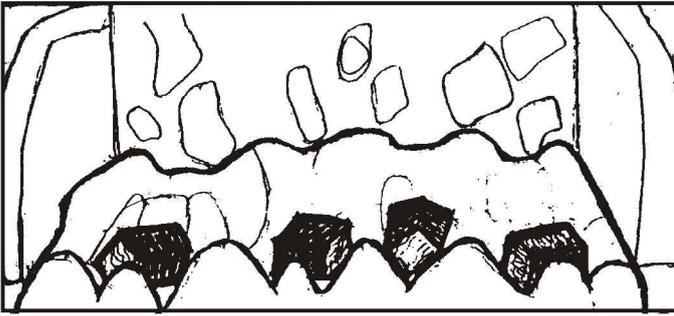

Fig. 6B
3. Locate 4 coals on the front recesses of the front coal bed as shown in Fig. 6B. Wherever possible place the coals with the decorative faces forward. Ensure that the coals are stable and are not likely to fall off.